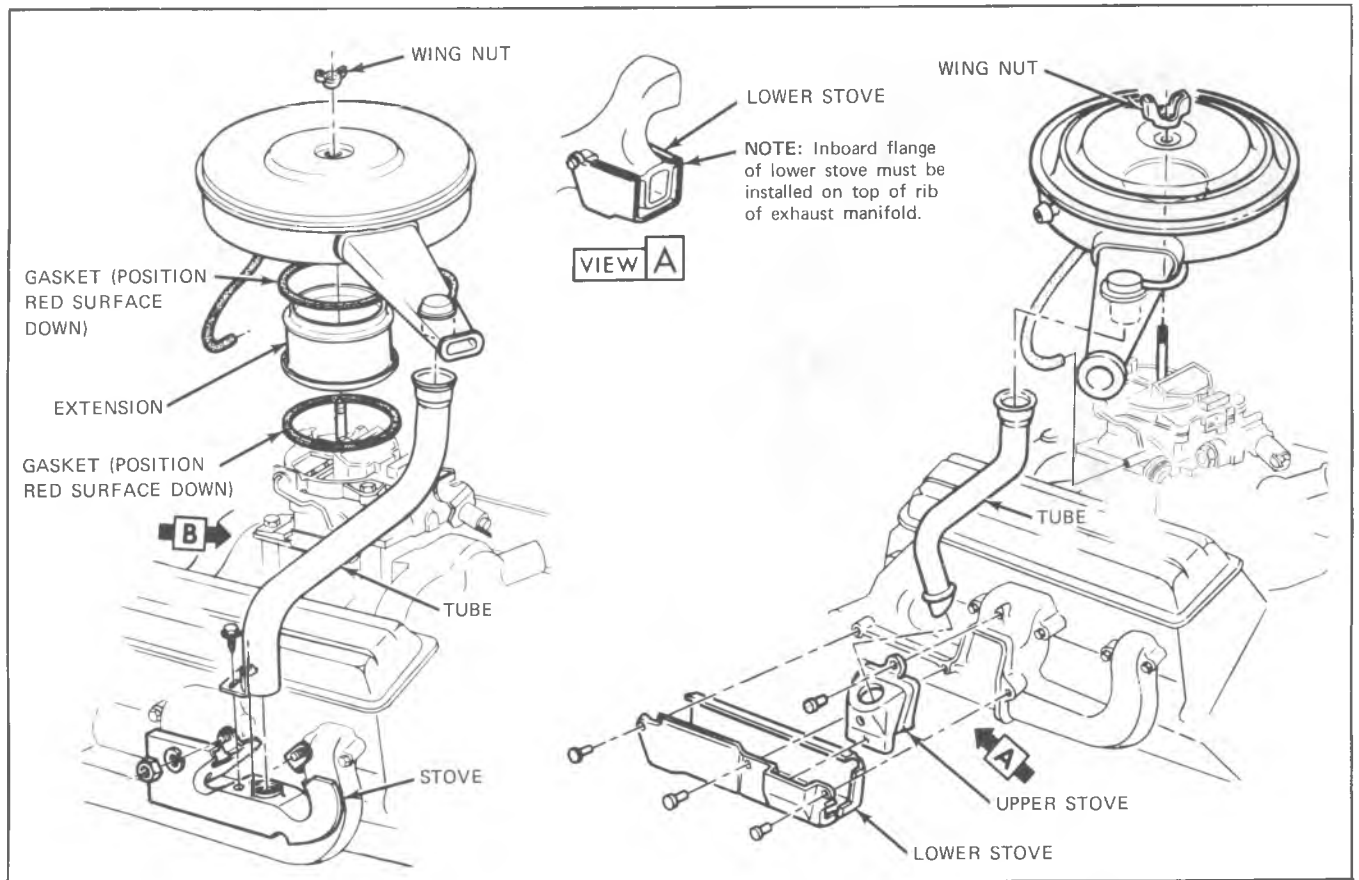

Fig. 17C-Air Cleaner-P20(42), P30(42), P30(32)
Refer to figure 17C for air cleaner used of P20(42), P30(42) and P30(32) truck with 350 V8 engine and 4MV carburetor.